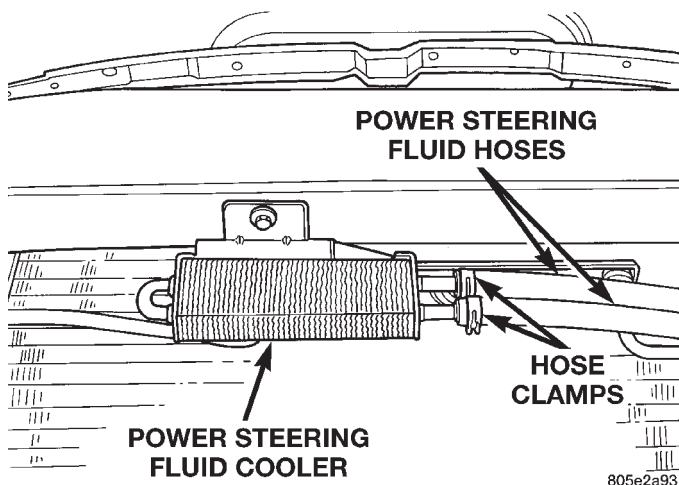

Fig. 37 Hose Clamps At Power Steering Fluid Cooler
(3) Remove the hose clamps (Fig. 37) from the power steering fluid hoses. Drain power steering fluid from the hoses and the power steering fluid cooler.